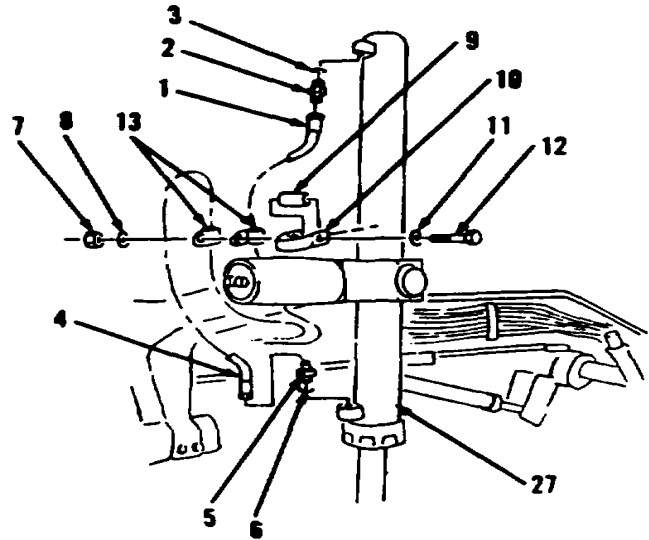

Figure 10-129.
1. Disconnect hose assembly (1, Figure 10-129) from left side of front frame.
2. Remove connector (2) and preformed packing (3) from left cylinder (27). Discard preformed packing (3).
3. Disconnect hose assembly (4).
4. Remove elbow (5) and preformed packing (6). Discard preformed packing (6).
5. Remove nut (7), washer (8), spacer (9), clamp (10), washer (11) and bolt (12).
6. Separate two clips (13) with hose assemblies (1 and 4) from cylinder (27). Two clips (13) remain attached to hose assemblies (1 and 4).